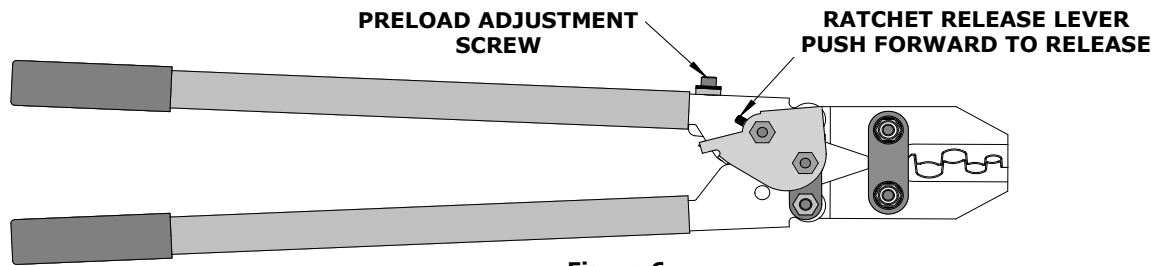

Figure 6
3. Make certain all pins, pivot points and bearing surfaces are protected with a thin coat of high-quality machine oil. Do not oil excessively. This hand tool was engineered for durability, but like any fine piece of equipment, it needs cleaning and lubrication for a maximum service life of trouble-free crimping. A light oil such as 30 weight automotive oil used at the oil points shown in Figure 6 every 5,000 crimps or 3 months will significantly enhance the tool life and ensure a stable calibration.
Should this tool ever become stuck or jammed in a partially closed position, **Do Not** force the handles open or closed. The tool will open easily by pushing the ratchet release lever forward. See Figure 6.
How to Adjust Tool Preload (See Figures 6 and 7)